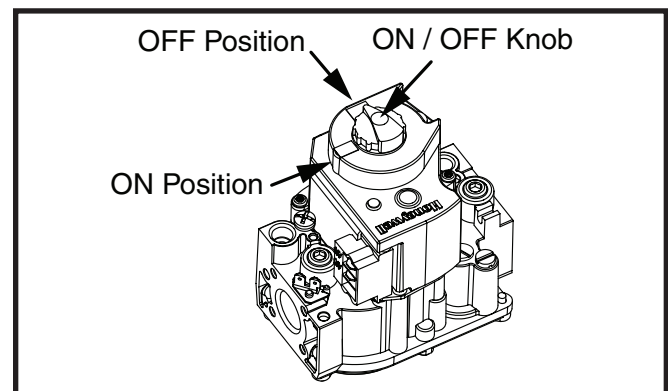

Figure 2. Gas Valve
See Figure 2 for gas valve knob location.
6. Set the gas valve On/Off knob to the OFF position. See Figure 2 below for knob location.